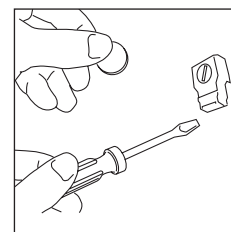

fig. 9
- Turn the battery cover (fig. 9) on the back in an anticlockwise direction until it is released.